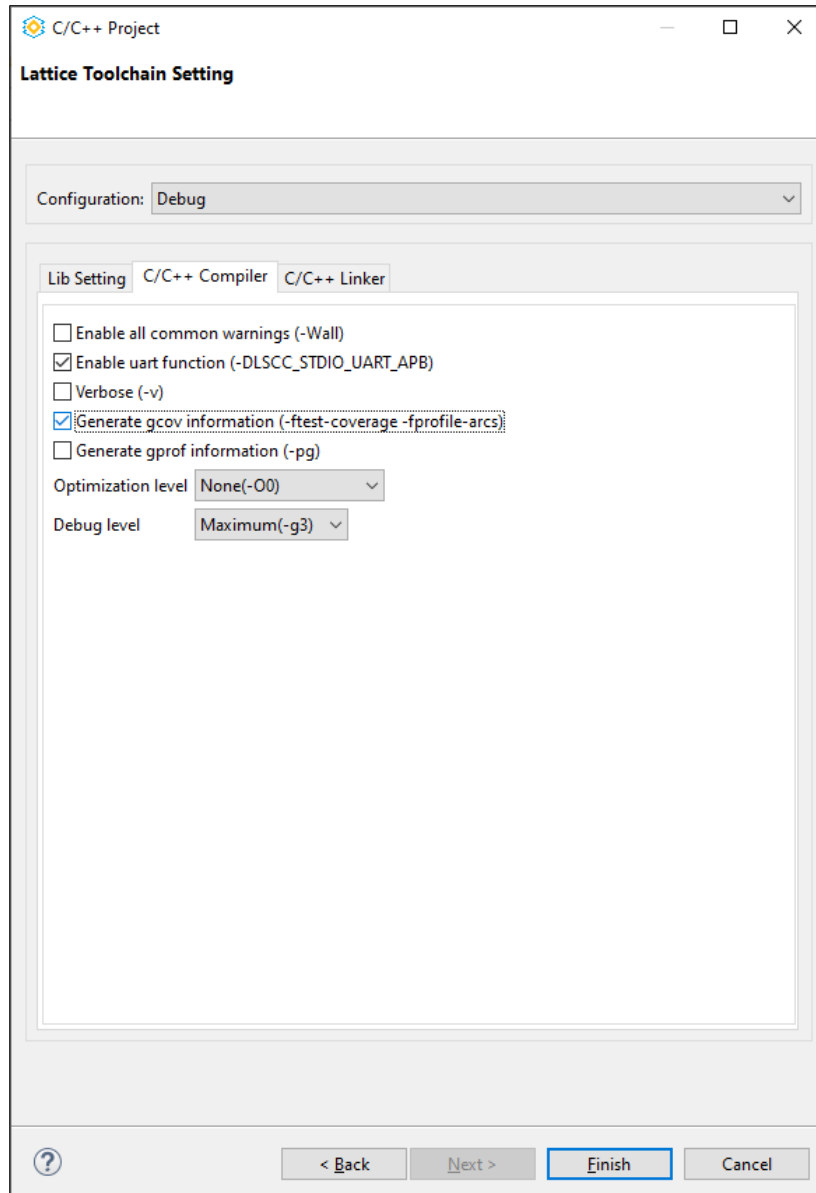

Figure 6.4. C/C++ Compiler
5. Click the **C/C++ Compiler** tab (Figure 6.4). The checkbox **Generate gcov information** is selected in this project by default. If you need to use the code coverage function in RISC-V RX Demo C Project and FreeRTOS-LTS-PMP-blinky C Project, you should select this checkbox manually.